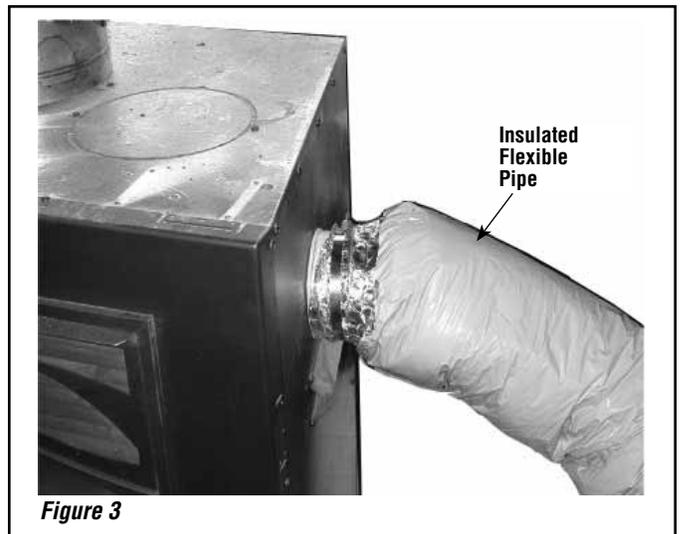

Figure 3
- Step 4.** Using a tightening collar, install the flexible pipe to the adaptor (*Figure 3*). **CAUTION:** Make sure the plastic casing of the flexible pipe does not touch the fireplace.